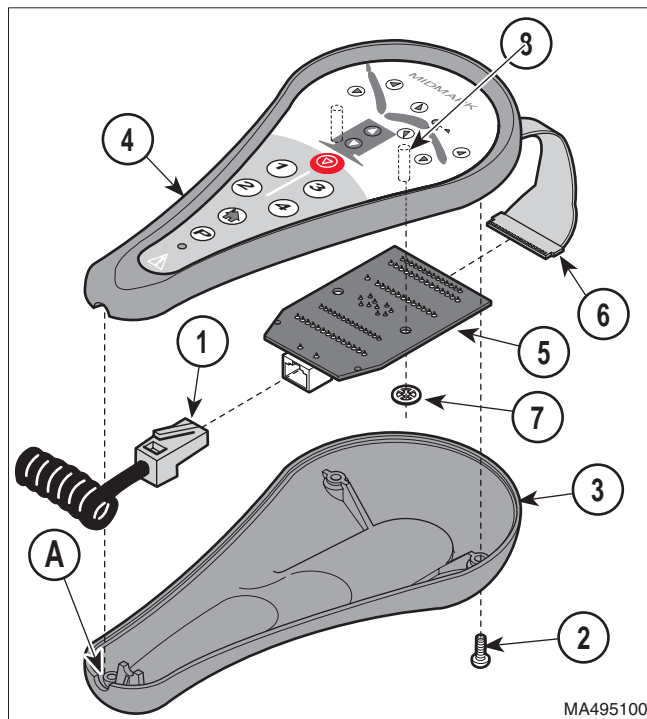

Figure 4-35. Hand Control PC Board Removal / Installation
- (1) Disconnect coil cord (1, Figure 4-35) from table.
- (2) Remove four screws (2) and hand control bottom (3) from hand control top (4).
- (3) Disconnect coil cord (1) from PC board (5).
- (4) Disconnect ribbon connector (6) from PC board (5)